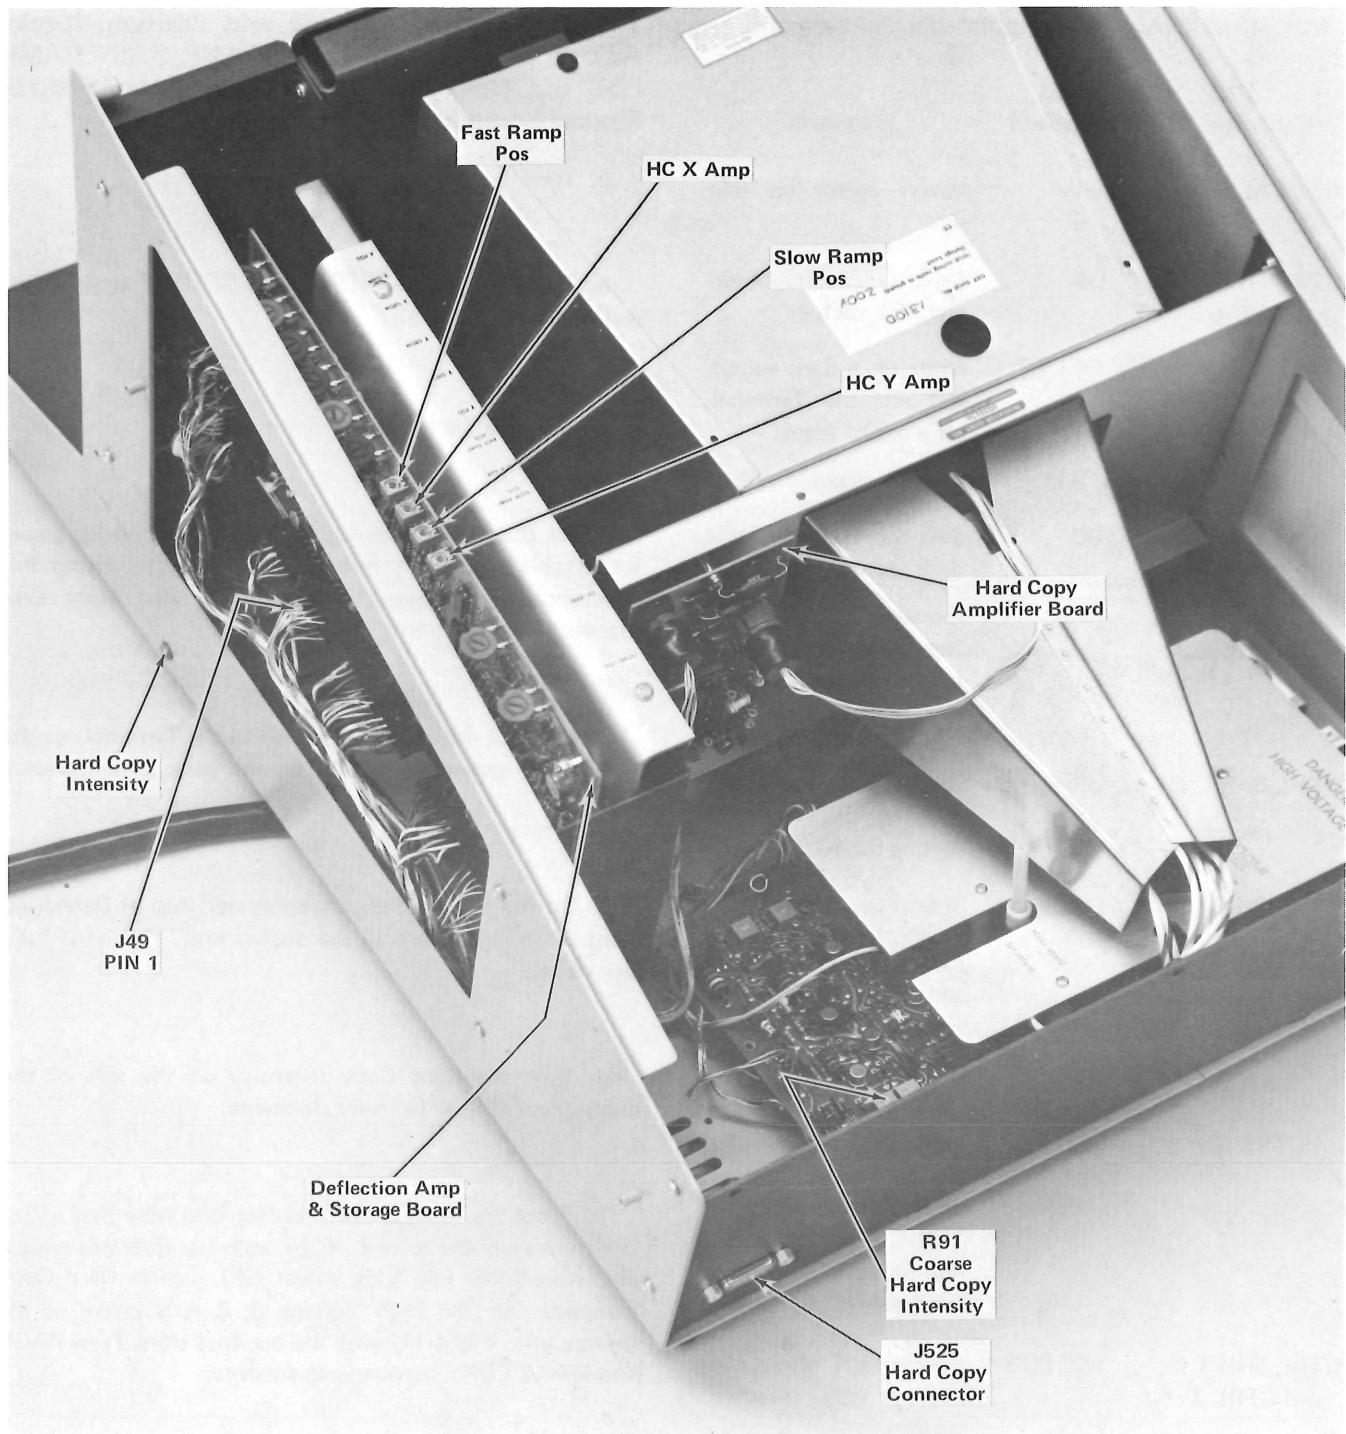

Fig. 4-14. Hard Copy adjustment and test point locations.
- Set the HC X AMP potentiometer (top of Deflection Amp & Storage board in the display unit, Fig. 4-14) fully clockwise.
- Turn the Hard Copy Intensity on the side of the display unit (Fig. 4-14) fully clockwise.
- Press the MAKE COPY button and note that a scan bar moves up the screen. If the scan bar does not appear and store as in Fig. 4-15, adjust R91, Coarse Hard Copy Intensity (on the High Voltage & Z Axis board in the display unit, Fig. 4-14) until the bar does store. Press PAGE and MAKE COPY between adjustments.
a. Press PAGE and MAKE COPY. Set Hard Copy Intensity (side of display unit) to mid-position. Then adjust R91, Coarse Hard Copy Intensity (on High Voltage & Z Axis board inside display unit, Fig. 4-14) to a point just below that at which the scan bar does any storing. Repeat as necessary to eliminate storing at all points on the display area.
b. Connect a probe from the oscilloscope's external trigger jack to the Z signal line at J49 Pin 1 on the Deflection Amp & Storage board in the display unit (Fig. 4-14). Switch the oscilloscope to external triggering.